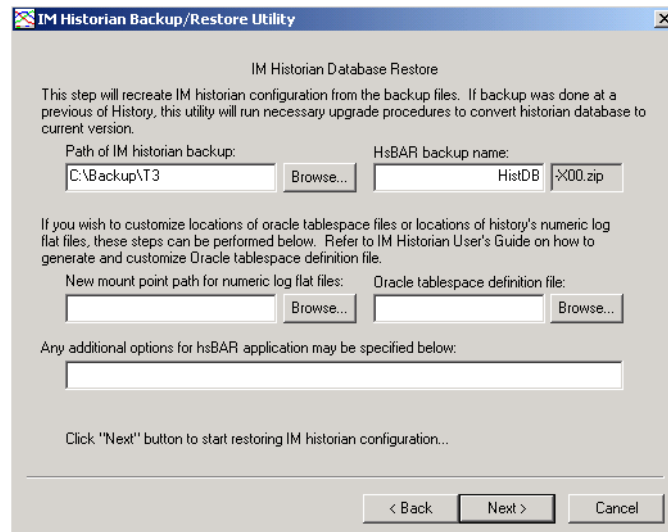

Figure 303. Setting Up the Restore Operation
3. Click **Next**. This displays a dialog for setting up the restore operation, Figure 303.